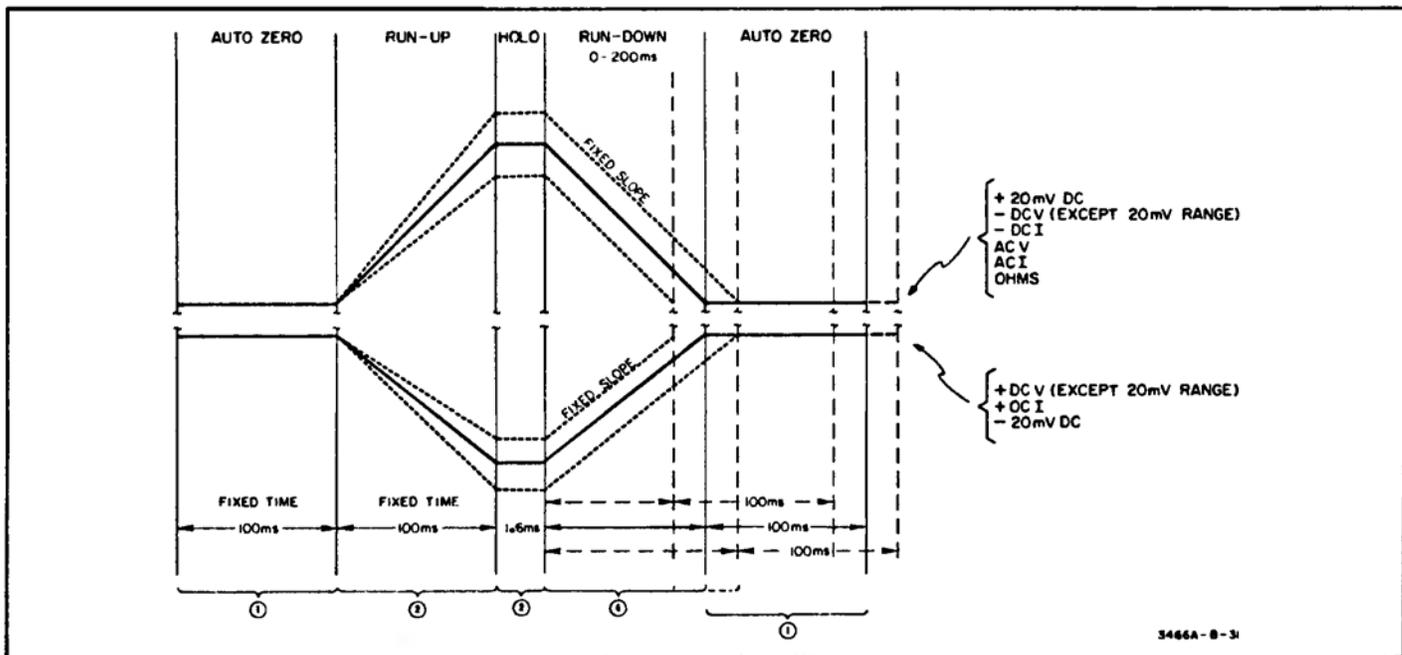

Figure 8-14. Integrator Output
8-61. There are four basic conditions (① ② ③ ④) for a complete measurement cycle as shown in Figure 8-14. These conditions exist for each of the seven Multimeter functions.
8-63. At the beginning of run-up ② a dc voltage proportional to the Multimeter input is applied across one of the run-up resistors (depending on the Multimeter function selected). This run-up voltage is integrated across C402. The polarity of the Integrator output is opposite to the run-up voltage polarity. The run-up voltage polarity is dependent upon the Multimeter function and range selected. Figure 8-14 shows the Integrator output for three different input levels and the polarity for different functions and ranges.